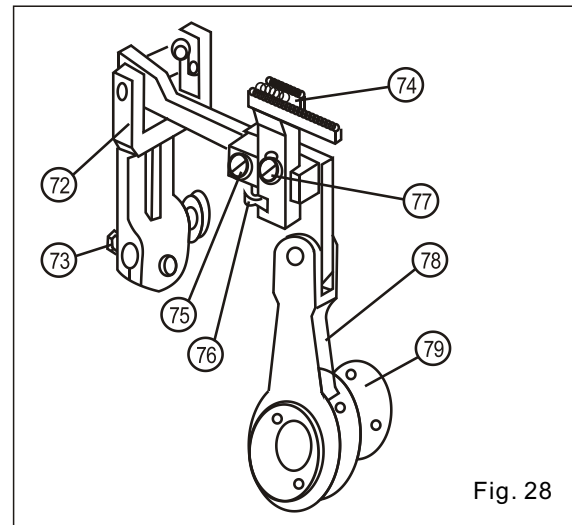

Fig. 28
(2) Loosen the screw (No. 79 in Fig. 28) on the lifting eccentric cam of lower cloth feed dog and the screw (No. 73 in Fig. 28) of lower cloth feed dog stand (No. 72 in Fig. 28). The pinhole of needle plate shall be accurately aligned with the needle, and the needle shall be kept vertical to the needle plate, as indicated in Fig. 28.
(3) Place the lower cloth feed dog (No. 74 in Fig. 28) in the center of the needle plate, and make it fixed in advance. To make the two ends of lower cloth feed dog equal distance from the inside notch of needle plate, it needs to adjust the stand of lower cloth feed dog. If needed, move the lifting eccentric cam of lower cloth feed dog along the shaft, thus to prevent it from being away from the center due to the movement. fasten the screws on the lifting eccentric cam and the stand of lower cloth feeding dog. As indicated in Fig. 28.
(5) Move the handwheel to make the lower cloth feed dog (No. 74 in Fig. 28) up to the highest point of needle plate, adjust the two screws (No. 75 and 76 in Fig. 28) to the position in parallel with the lower cloth feed dog and needle plate.
(3) This state may be achieved through adjustment to the lifting eccentric cam (No. 79 in Fig. 28) of lower cloth feed dog and height adjusting screw (No. 76 in Fig. 28). Before turning the adjusting screw (No. 76 in Fig. 28), fasten the screw (No. 77 in Fig. 28) first, as indicated in Fig. 28.